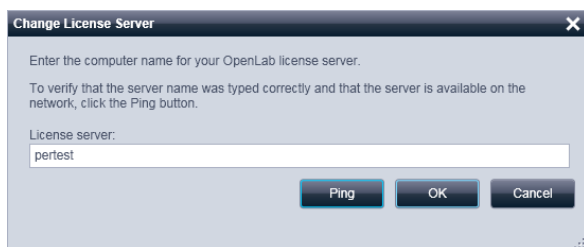

Figure 5 Changing to a central license server in the Change License Server dialog
- 5 Click the **Change Server** button. In the **Change License Server** dialog enter the name of the central license server to be used (see Figure 5 on page 11).